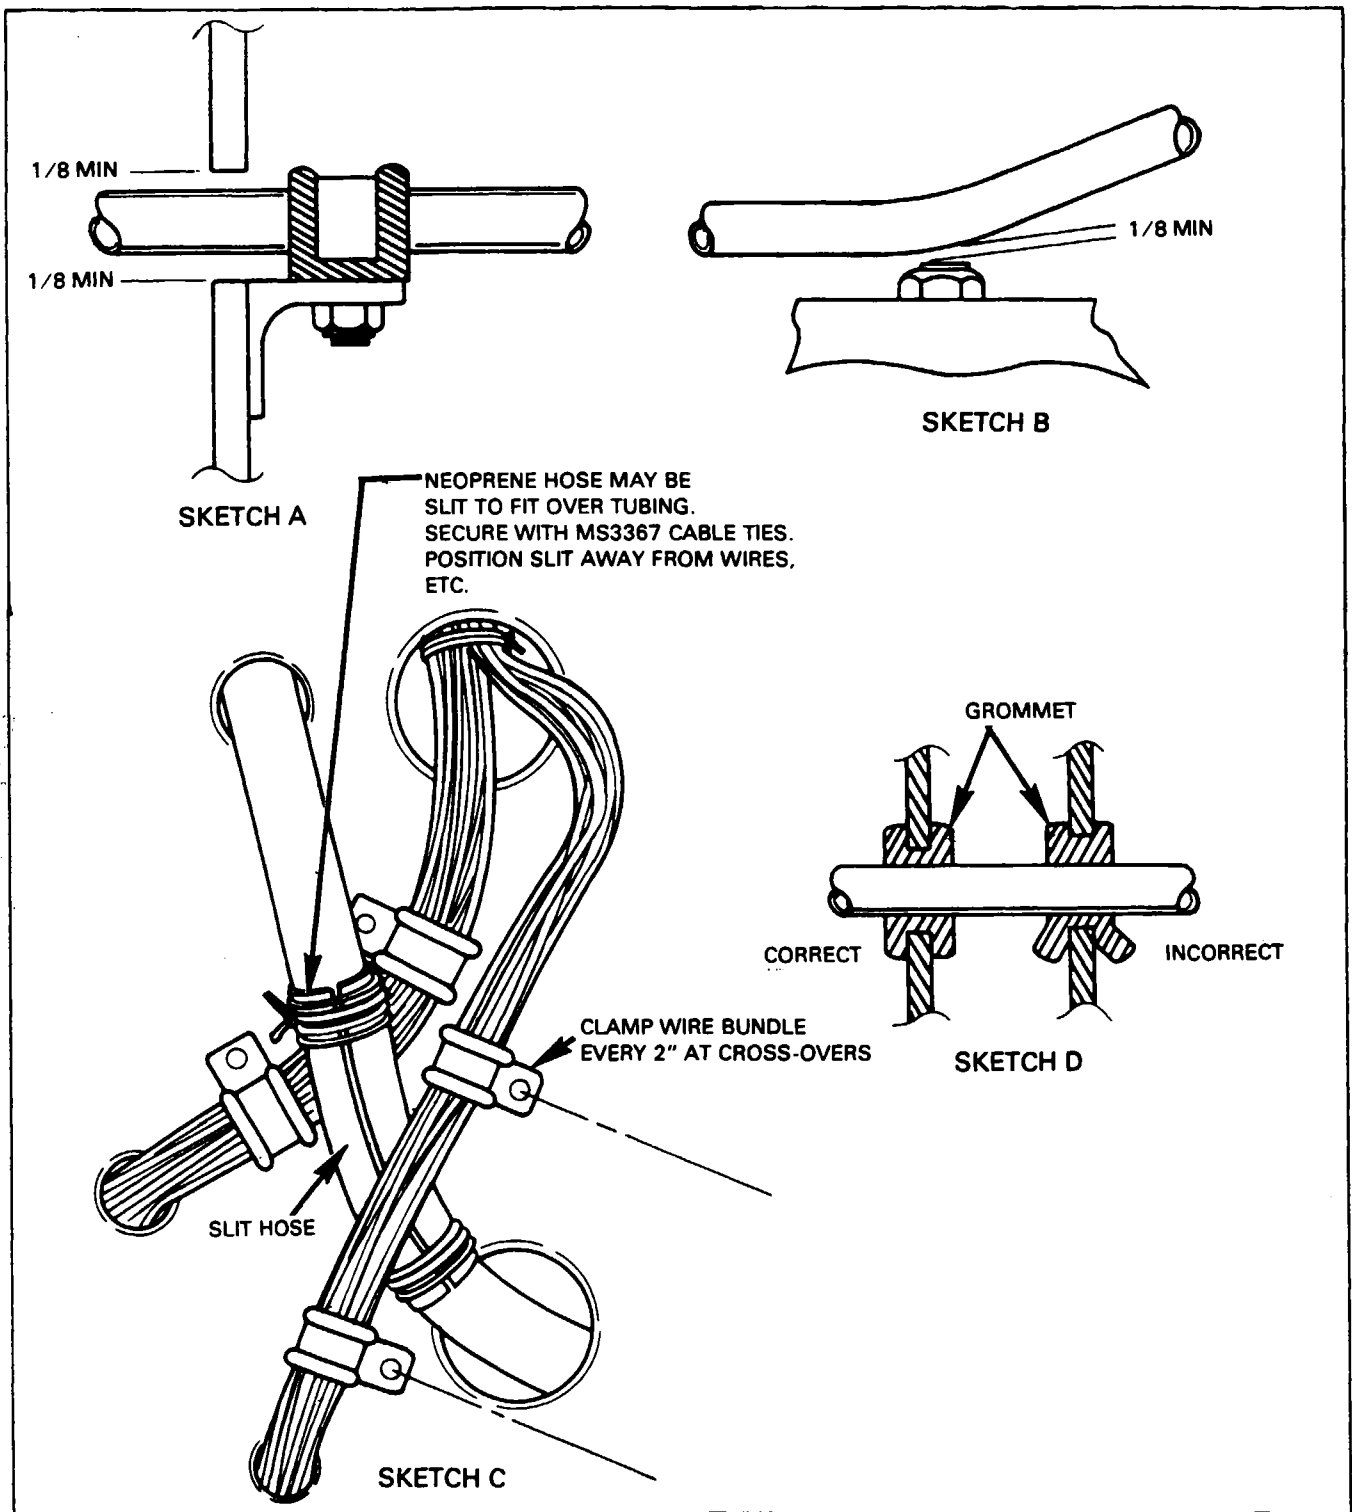

Figure 14-1. Oxygen Tubing Installations
- a. Make sure to check the oxygen lines for proper clearance as follows: (Refer to Figure 14-1.)
- 4. A minimum of 1/8 inch between tubing and structure adjoining the supporting clamp, as shown in Figure 14-1, Sketch A.
- 5. Where a tube passes through a grommet, the tube must not bear on the grommet in any way that might cause cutting of the grommet in service as shown in Figure 14-1, Sketch D.
- 6. While in service, items may receive vibrations causing them to come in contact with other parts of the aircraft. With this in mind, low pressure tubing that is supported well enough to prevent relative motion must have at least a minimum clearance of 1 /8 inch from a projection (bolt, nut, etc.). Low pressure tubing that cannot be supported well enough to prevent motion must have a minimum clearance of 1 /8 inch allowed after the maximum travel of the tube. High pressure lines are affected similarly but require 1/2 inch minimum clearances. Refer to Figure 14-1, Sketch B.